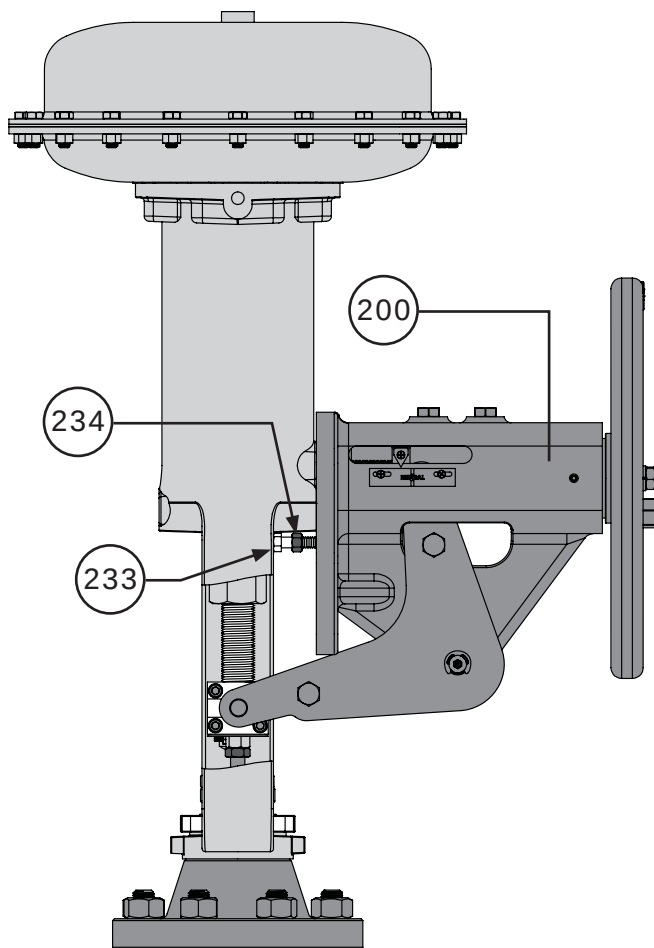

Figure 44 Jack Screw Installation
- 7 Thread the hex nuts (Key 234) completely onto the jack screws (Key 233). Install the jack screws into the holes of the side-mounted handwheel body (Key 200) that places them most squarely against the legs of the actuator yoke. Refer to Figures 44 & 45.